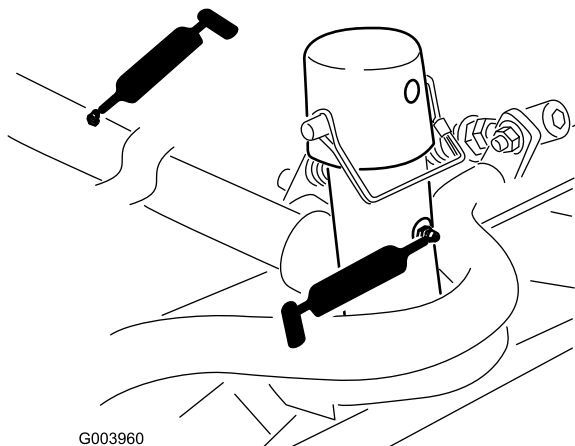

Figure 63
- Cutting unit carrier frame and pivot (2 each) (Figure 63)